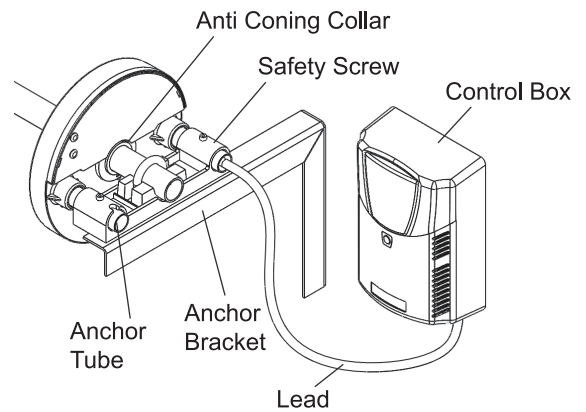

Fig5
- o) Slide anti coning collar over spindle so that it is flush with edge of the split ring. Secure anti coning tightly to ensure it will not move. (Fig. 5)
- p) Push the anchor tubes through the anchor block and slide the assembly over the wall bracket. Thread the drive unit loom through the anchor tube and locate the anchor tube firmly into the female boss on the main body. Once in place lock the anchor tube and block with the self tapping screw provided. (6 3/8) (Fig. 5)